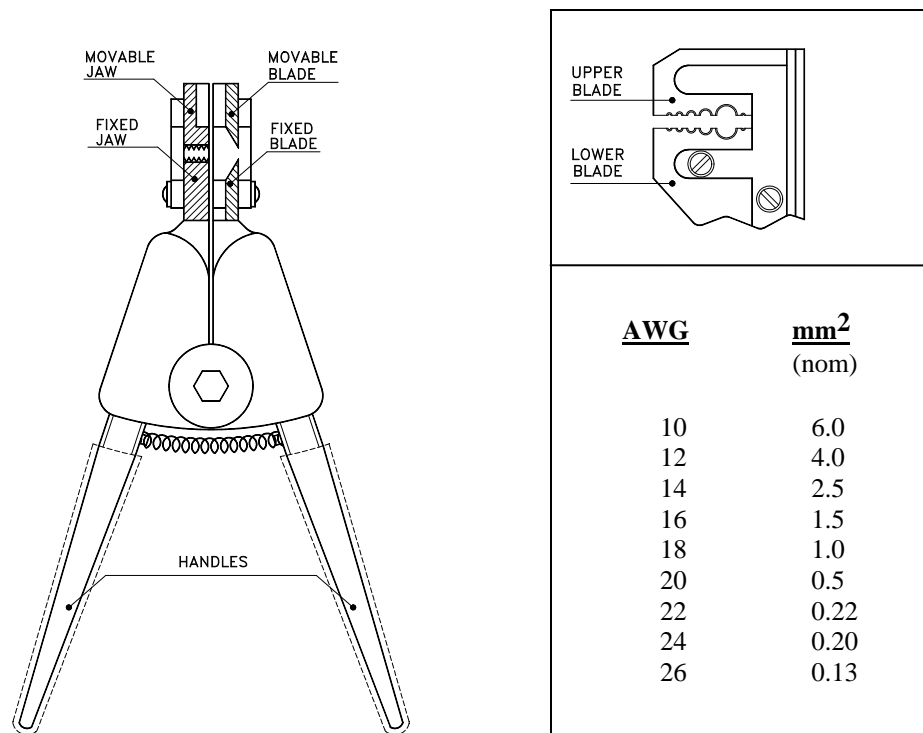

FIGURE-1 : WIRE STRIPPER, HAND, AUTOMATIC
TO BE PROCURED IN PAIRS (TOP & BOTTOM) - See Figure-1.
2.3 The wire stripper shall consist of top & bottom gripper jaws, top & bottom form-ground cutting blades, frame and handles as shown in Figure-1.
2.5 **Dimensions and Tolerances** : Dimensions and Tolerances shall be as per Figure-1 and Table-1.